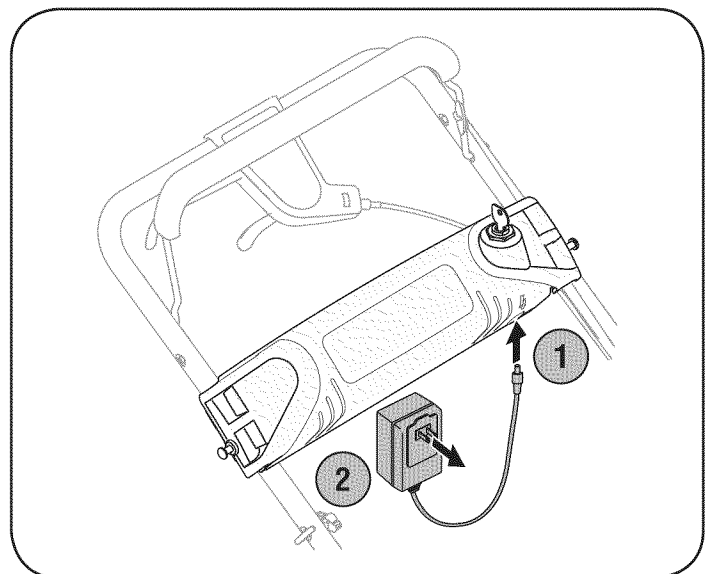

Figure 21
1. Plug the battery charger into the port on the underside of the battery housing. See Figure 21.